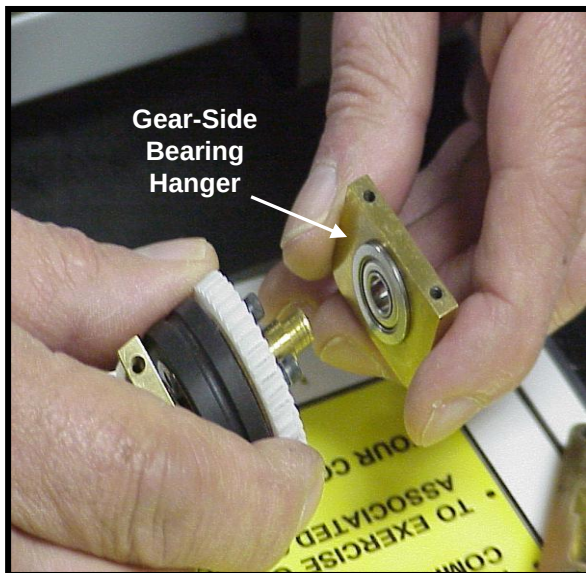

Figure 40
13.5.2.5 Slide Gear-side Bearing Hanger off the hub shaft. **See Fig. 40**